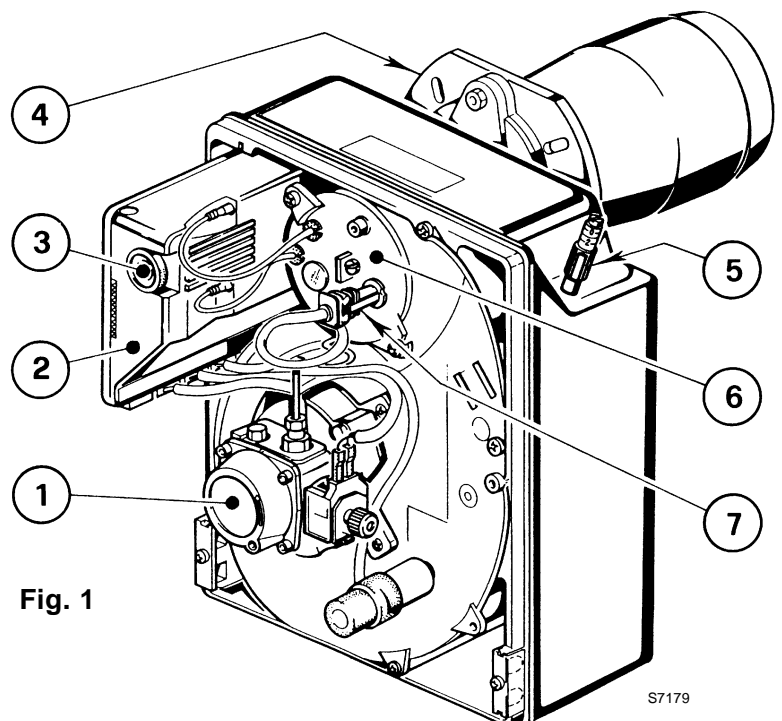

Fig. 1
- Clean the photoresistance, (7, fig. 1, page 1).
A fault usually makes the lock-out lamp light which is situated inside the reset button of the control box (3, fig. 1, page 1).